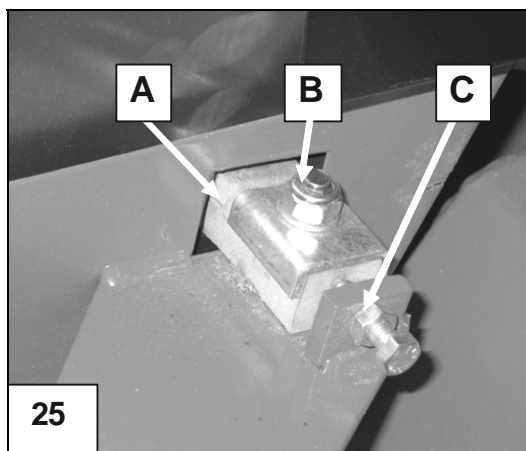

Fig. 25. Crosscut blade guide
7.2 Guide for crosscut saw-blade (Figure 25)